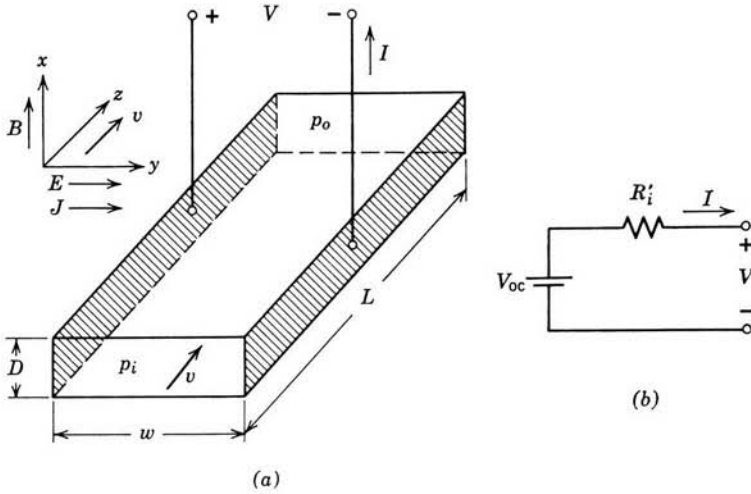

Fig. 12P.18
12.19. An MHD conduction generator has the configuration and dimensions defined in Fig. 12P.19. The fluid is inviscid, has conductivity σ , and is flowing with a uniform, constant velocity v in the x -direction. The field intensity H_o , in the y -direction, is produced by the system shown, which consists of a magnetic yoke with two windings; one (N_o) carries a constant current I_o and the other (N_L) carries the load current I_L . The resistance of winding N_L , fringing effects at the ends and sides of the channel, and the magnetic field due to current in the fluid may be neglected (the magnetic Reynolds number based on length l is small). For steady-state operating conditions find the number of turns N_L necessary to make the terminal voltage V_L independent of load current I_L .